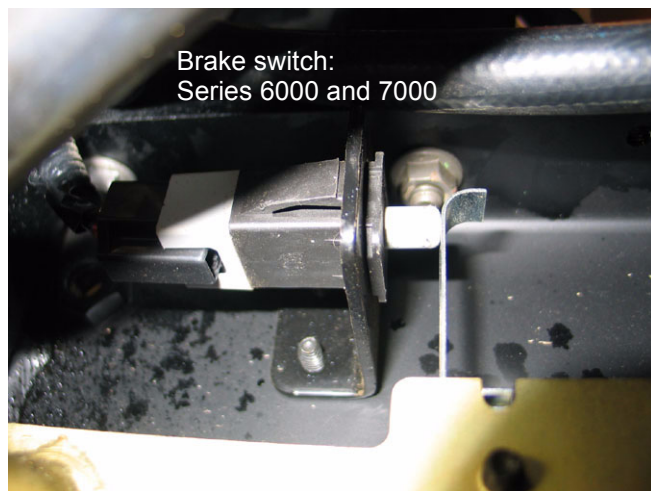

Figure 2.27
2.27. The Series 6000 and Series 7000 brake switch has two sets of contacts. It is mounted to the right hand side frame channel, in front of the pedal linkages. See Figure 2.27.